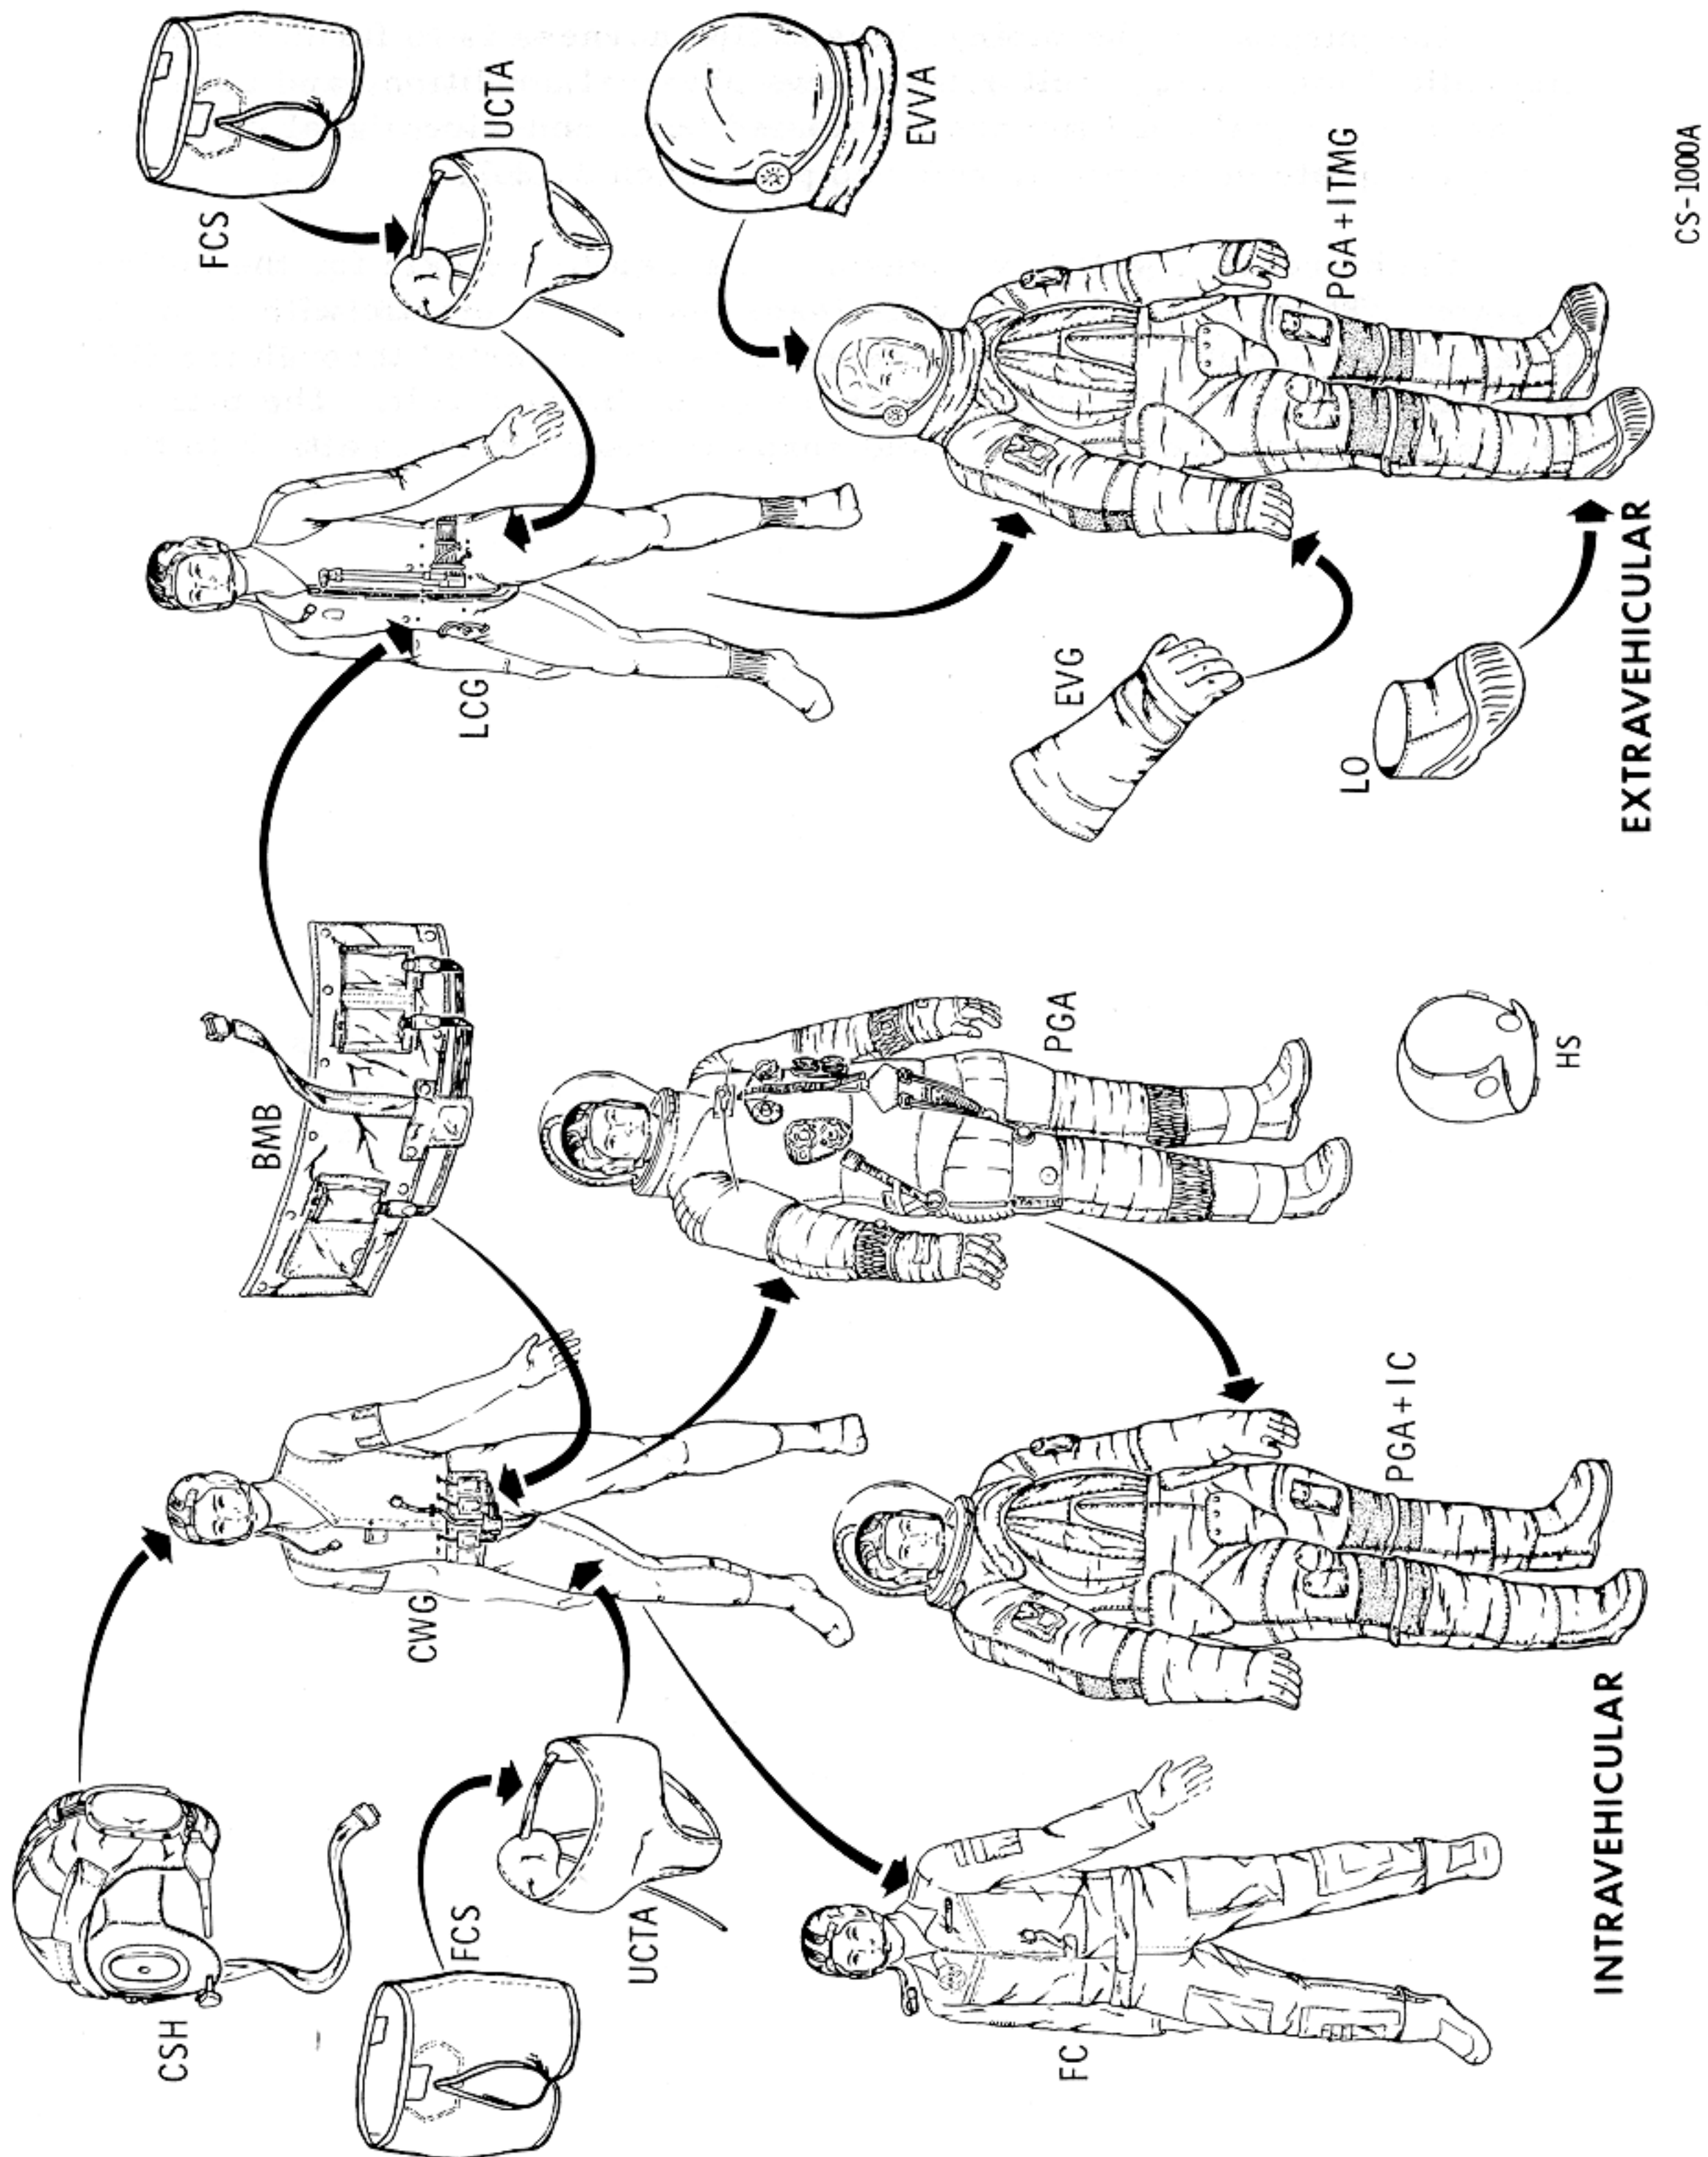

Figure 2.12-1. Spacesuits
2.12.2 SPACESUITS (Figure 2.12-1).
The intravehicular spacesuit is depicted in figure 2.12-1. The intravehicular condition has two subconditions, unsuited and suited. In the unsuited condition or "shirtsleeve environment," the crewman breathes the oxygen in the spacecraft cabin and wears a bioinstrumentation harness, a communication soft hat for communication, a constant wear garment (CWG) for comfort, flight coveralls for warmth, and booties for zero-g restraint. A CWG adapter is used to connect the communications soft hat (CSH) and the bioinstrumentation harness signals to the communications cable. The comm cable attaches to connectors between panels 300 and 301 to complete the signal flow to the audio center.
2.12.2.1.2 Fecal Containment System (Figure 2.12-1).
2.12.2.1.3 Urine Collection and Transfer Assembly (Figure 2.12-1) and UCD Clamps